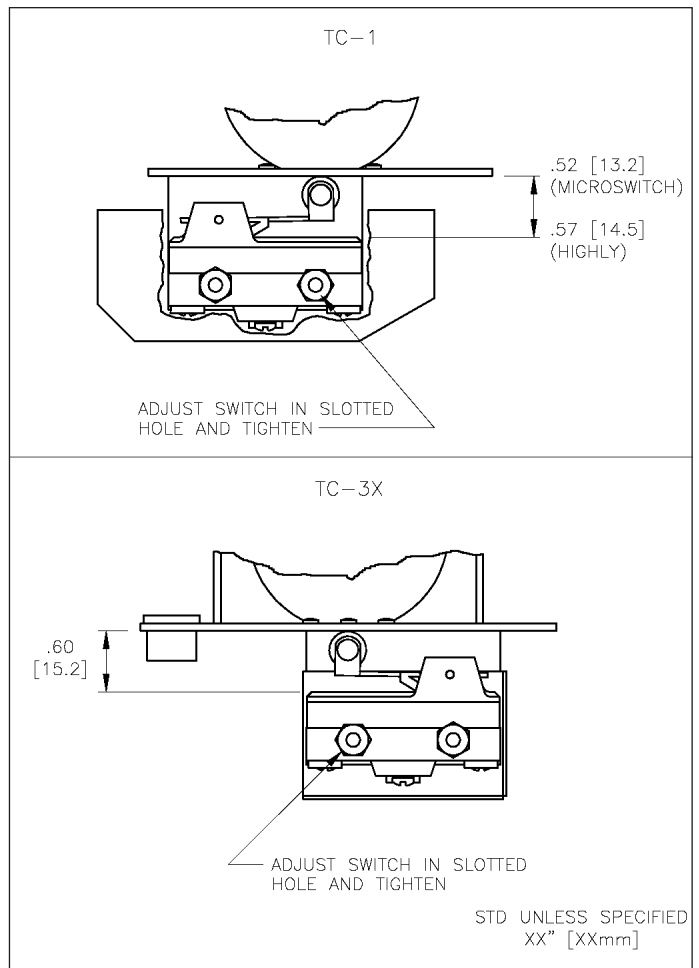

Figure 5
**Switch Replacement/Positioning (See Figure 5)**